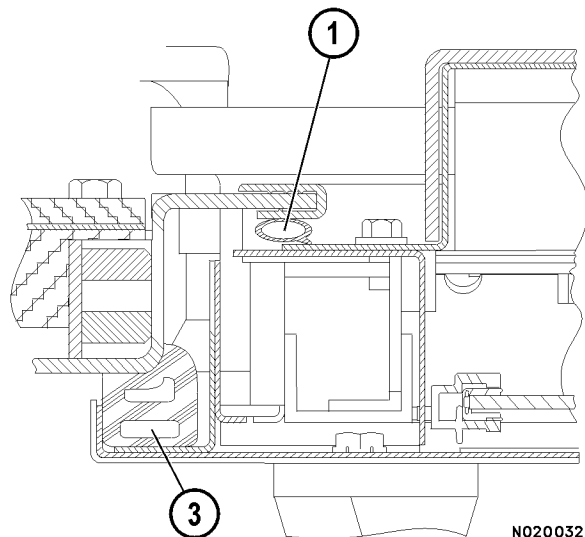
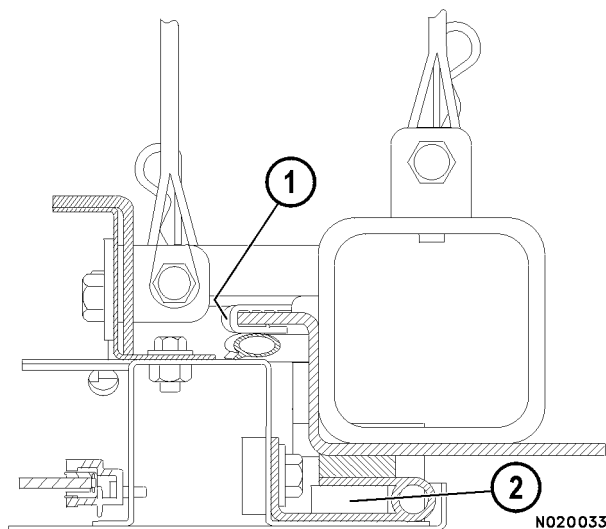

FIGURE 50-9. DOOR SEALS
FIGURE 50-10. DOOR SEALS
3. Install the seal so that the corners of the seal fit up into the corners of door frame (3, Figure 50-9).
4. Door hinge seal (2, Figure 50-10) is glued to the hinge. Use the same procedure as above for this seal.
1. Starting at the lower center of the door opening, pull up on one end of the seal. The seal should pull loose from the cab opening lip. Pull door opening seal (1, Figure 50-9 and Figure 50-10) loose all the way around the opening.